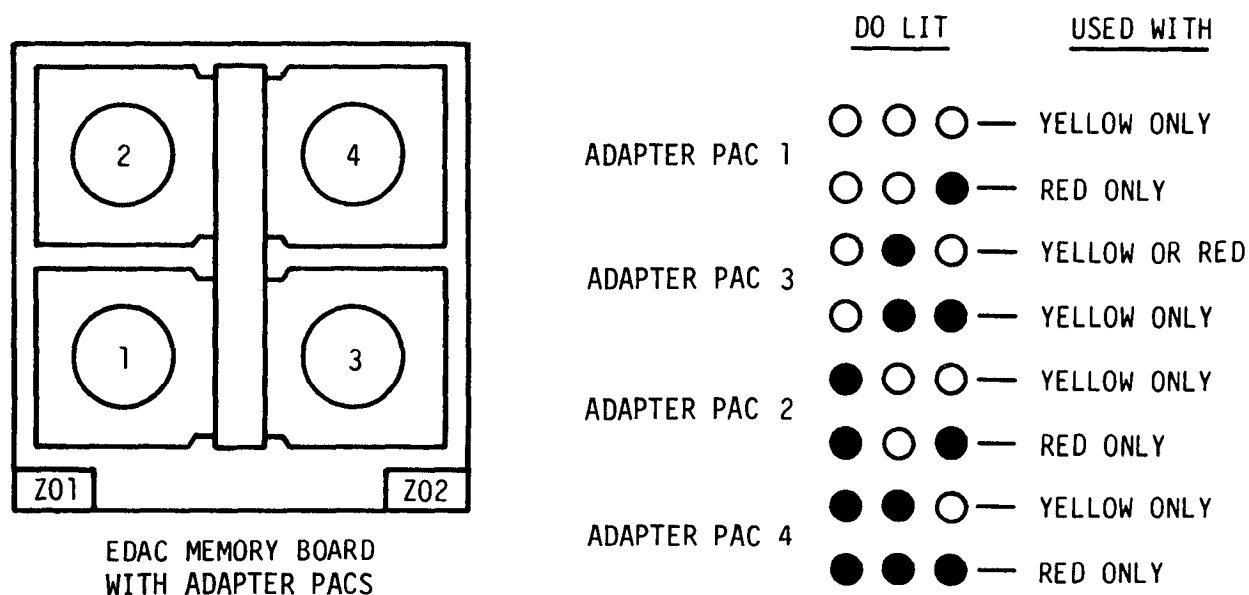

Figure 4-2. Group DO Light Combinations
e. Combinations of indicators lit in group D0 will tell you which adapter pac is faulty. Eight possible combinations of lights 1, 2, and 3, and the location of each adapter pac on the memory controller board is shown (fig. 4-2).